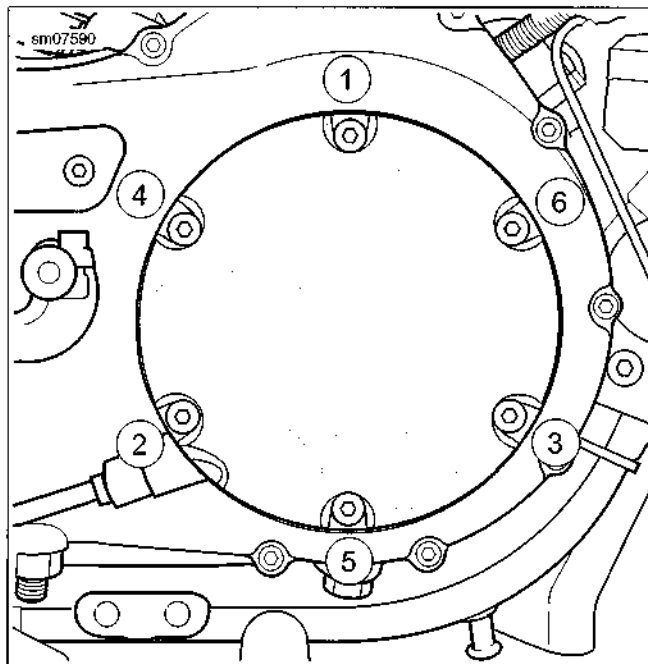

Figure 1-17. Clutch Inspection Cover Torque Sequence
- b. See Figure 1-17. Install cover and tighten screws in sequence to 90-120 in-lbs (10.3-13.6 Nm).